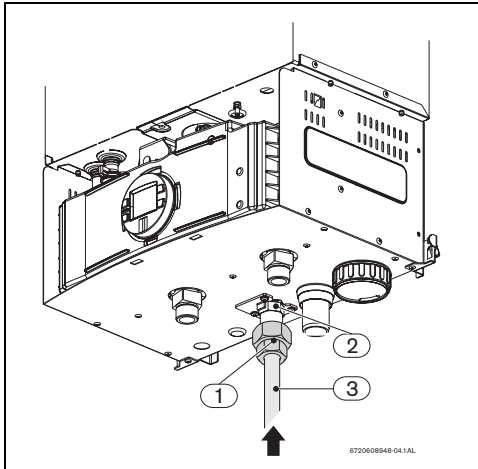

Fig. 28
- Tighten the threaded head on the gas inlet (Fig. 28 , pos. 1) and use the copper (Fig. 28 , pos. 2) extremity to solder the pipe to the main (Fig. 28 , pos. 3).